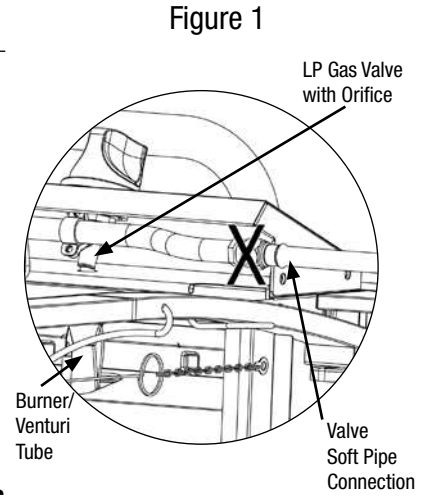

Figure 1
- Please refer to diagram for proper installation (Figure 1).
- Spoon several drops of solution, or use a squirt bottle, at all "X" locations (Figures 1 and 3).